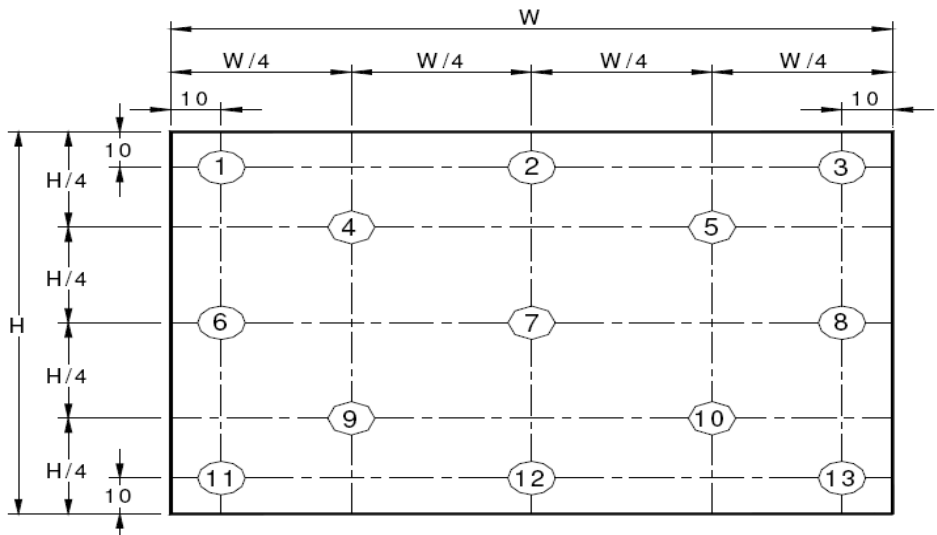

Figure 9. Uniformity Measurement Locations (13 points)
<p>Notes :</p> <ol style="list-style-type: none"> <li>Viewing angle is the angle at which the contrast ratio is greater than 10. The viewing angles are determined for the horizontal or 3, 9 o'clock direction and the vertical or 6, 12 o'clock direction with respect to the optical axis which is normal to the LCD surface (see Figure 7).</li> <li>Contrast measurements shall be made at viewing angle of <math>\Theta = 0</math> and at the center of the LCD surface. Luminance shall be measured with all pixels in the view field set first to white, then to the dark (black) state . (see Figure 7) Luminance Contrast Ratio (CR) is defined mathematically. <div style="text-align: center;"> <math display="block">CR = \frac{\text{Luminance when displaying a white raster}}{\text{Luminance when displaying a black raster}}</math> </div> </li> <li>Center Luminance of white is defined as luminance values of 5 point average across the LCD surface. Luminance shall be measured with all pixels in the view field set first to white. This measurement shall be taken at the locations shown in Figure 8 for a total of the measurements per display.</li> <li>The White luminance uniformity on LCD surface is then expressed as : <math>\Delta Y = \text{Minimum Luminance of 5(or 13) points} / \text{Maximum Luminance of 5(or 13) points.}</math>(see Figure 8 and Figure 9).</li> <li>The color chromaticity coordinates specified in Table 5 shall be calculated from the spectral data measured with all pixels first in red, green, blue and white. Measurements shall be made at the center of the panel.</li> <li>The electro-optical response time measurements shall be made as Figure 10 by switching the “data” input signal ON and OFF. The times needed for the luminance to change from 10% to 90% is <math>T_r</math>, and 90% to 10% is <math>T_r</math>.</li> <li>Cross-Talk of one area of the LCD surface by another shall be measured by comparing the luminance (YA) of a <math>10 \pm 1\text{mm}</math> diameter area, with all display pixels set to gray 127(of 0 to 255), to the luminance (YB) of that same area when any adjacent area is driven dark.The luminance ratio shall not exceed 1:1.05 (See Figure 11).</li> </ol>
The White luminance uniformity on LCD surface is then expressed as :  $\Delta Y5$  = Minimum Luminance of five points / Maximum Luminance of five points (see Figure 8) ,  $\Delta Y13$  = Minimum Luminance of 13 points /Maximum Luminance of 13 points (see Figure 9).